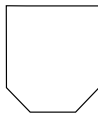

Figure 50: Metallic Test Tank
- Prepare a transparent Metallic Test Tank as shown in the following Figure 50.